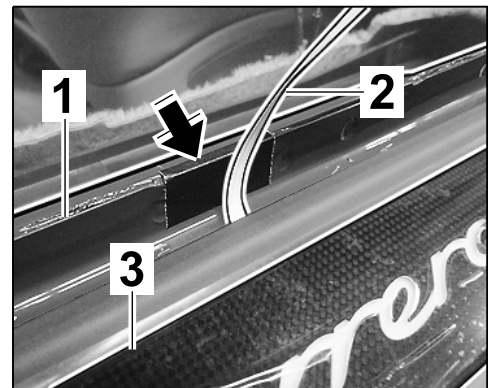

Figure 17
- 3.3 To protect the flat conductor path on the body flange ⇒ *Figure 17-1-*, stick wrapping tape/insulating tape ⇒ *Figure 17 -arrow-* around the body flange.